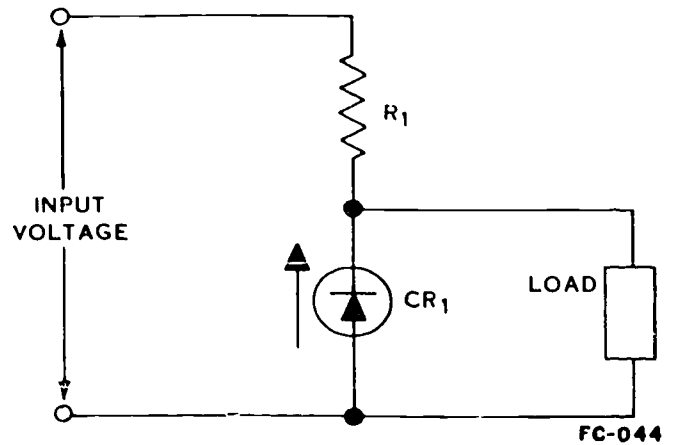

Figure 5-2. Zener diode as a voltage regulator.
Applying reverse bias to a junction diode has proved valuable in electronic circuits, although this condition is used less than is the application of forward bias. While current is in the diode, the voltage across the device remains almost constant. Remember that this effect is similar to the characteristic of a gas-filled voltage regulator tube. In transistorized equipment you may see the zener diodes used as voltage regulators, since they are small, have excellent regulation characteristics, and require a minimum of power. Figure 5-2 shows the principle of voltage regulation while using a zener diode. When the input voltage has increased, a greater voltage is applied to series resistor R_1 and zener diode CR_1 . This voltage increase causes the diode to conduct more current. Nevertheless, an increase in current does not cause a voltage change at the terminals of the diode. Since the load is parallel to the diode, it likewise has no change in voltage. Changes in current or voltage in the power source or in the load are compensated for by the zener diode.
- ___ 4. CR_1 of figure 5-2 rectifies alternating current.
- ___ 5. Current for the load of figure 5-2 is always equal to the current in CR_1 .
041. Using figures 5-2 and 5-3, compare a PN junction with a transistor.
Using figures 5-2 and 5-3, select the applicable characteristics given below, by placing the referenced figure(s) in the space provided. You may use both in some blanks.